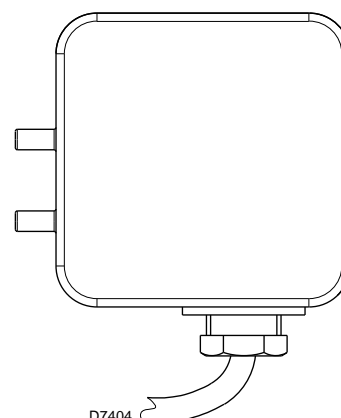

Fig. 20
- Adjust the air pressure switch (Fig. 20) to the start of the scale.
Adjust the air pressure switch (Fig. 20) after performing all other burner adjustments with the air pressure switch set to the start of the scale.